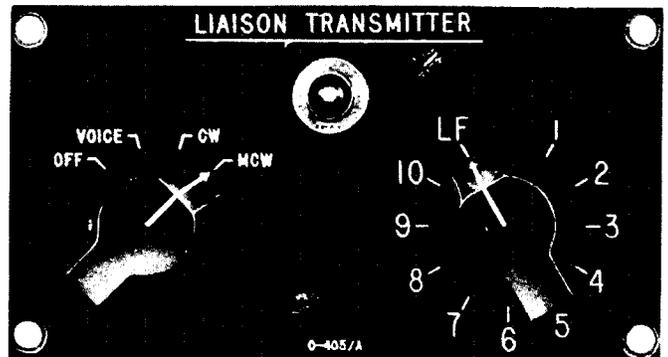

Figure 1-6. Control Panel C-405/A
(2) Control Unit C-87/ART-13 has a key located on it for keying the transmitter on "CW" or "MCW" and a jack for connection of a microphone for "VOICE" operation.
d. CONTROL PANEL.—For installations having standardized control panels, Control Panel C-405/A replaces and performs all the functions (except key) of Control Unit C-87/ART-13. See figure 1-6.